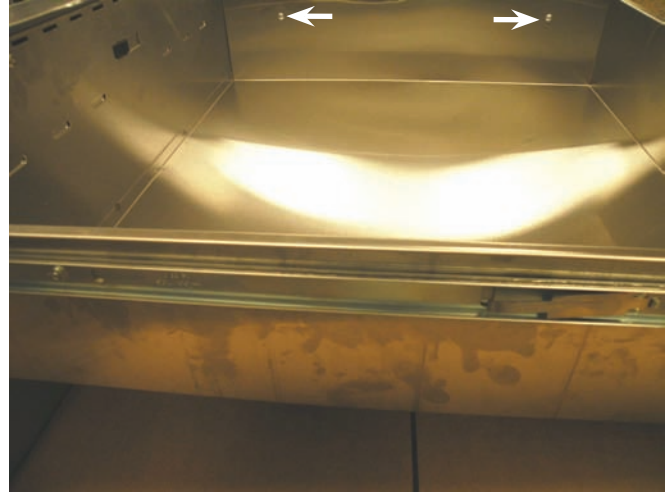

Fig 14
1. To remove **Drawer Slide channel**, remove drawer from cavity (**page 7, Fig 4**) and remove the two (2) T-20 Torx screws on whichever side has to be removed (**Fig 14**).